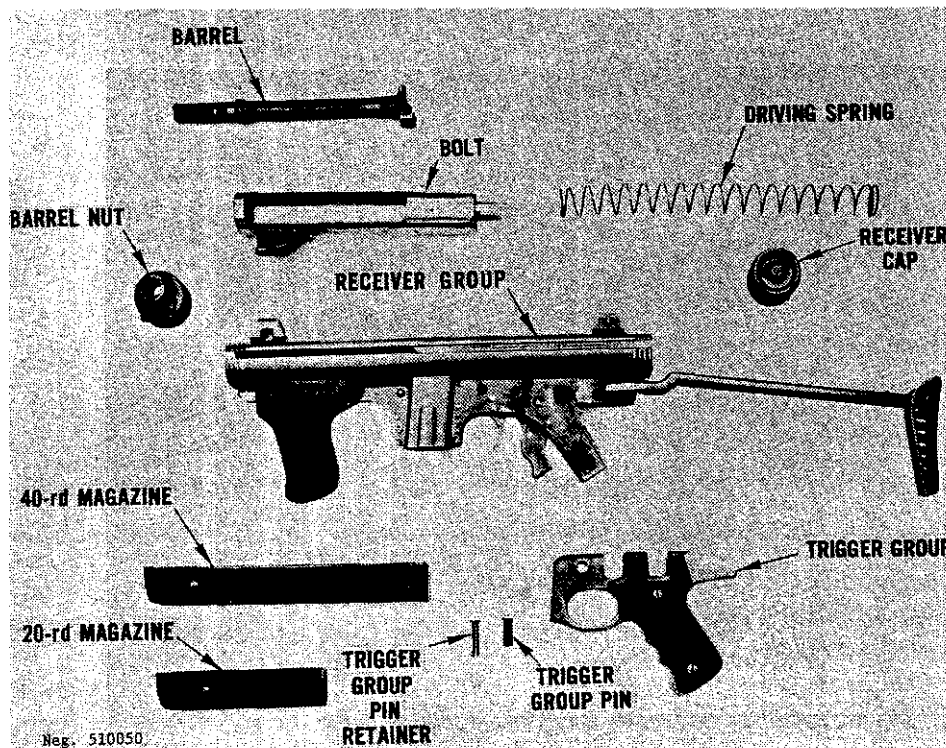

Figure 51. Beretta Model 12 disassembled.
c. Depress the receiver cap catch (fig 51) and unscrew the receiver cap. Remove the cap and driving spring.
d. If desired, push out the trigger-group pin retainer and then push out the trigger-group pin (fig 51). Pull the trigger group down and off the receiver.
- i. Insert the barrel and bolt assembly into the front of the receiver, depress the barrel nut catch (fig 51), and screw the barrel nut into the receiver. Insert the magazine.